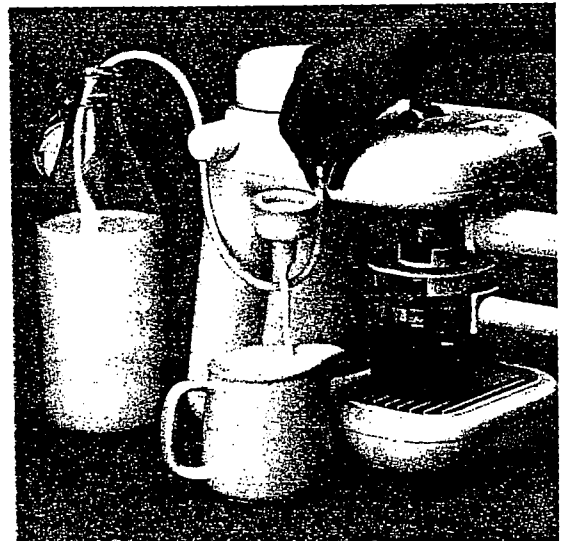

Figure 8
6. Turn the STEAM CONTROL KNOB (A) counter clockwise...about half a turn...this will draw the cold milk up through the tube...combining it with the steam...the hot frothy milk will then be disbursed into the container below the CAPPUCCINO WIZARD SPOUT (M) (See Fig. 8).
7. When you have frothed the desired amount of milk...turn the STEAM CONTROL KNOB (A) clockwise until it stops...press the DIVERTER PIN (K) down...press the STEAM DIVERTER TAB (H) down allowing the Espresso to continue.
10. Turn the STEAM CONTROL KNOB (A) counter clockwise about half a turn...this will draw the water or cold milk up thru the tube...combining it with the steam...the hot liquid will then be disbursed into the container below the CAPPUCCINO WIZARD SPOUT (M) (See Fig. 8).
11. When you have heated or frothed the desired amount of liquid...turn the STEAM CONTROL KNOB (A) clockwise...until it stops...press the DIVERter PIN (K) down...you may leave the machine like this...ready to use again...as long as you still have water in the boiler...if you will not need it within the hour...turn it off.